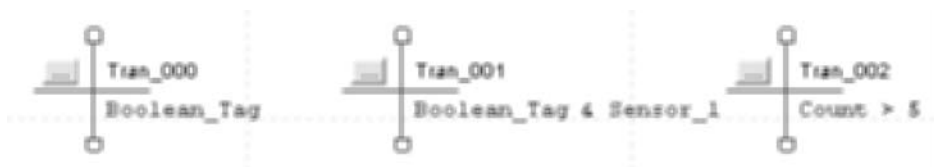

Figure 10-33 Use of Boolean expressions as transitions.
A transition can be a Boolean or can be a JSR instruction to call another routine. Figure 10-33 shows some examples of Boolean transitions. The first example is just a Boolean tag. It could be a sensor's state, for example. If it is true (1), the transition will be true. The second example uses an AND to see if both Boolean tags are true. Both must be true for the transition to be true. The third example uses a Boolean operator ($>$) and a Boolean tag in an expression. If the expression is evaluated as true, the transition will be true.